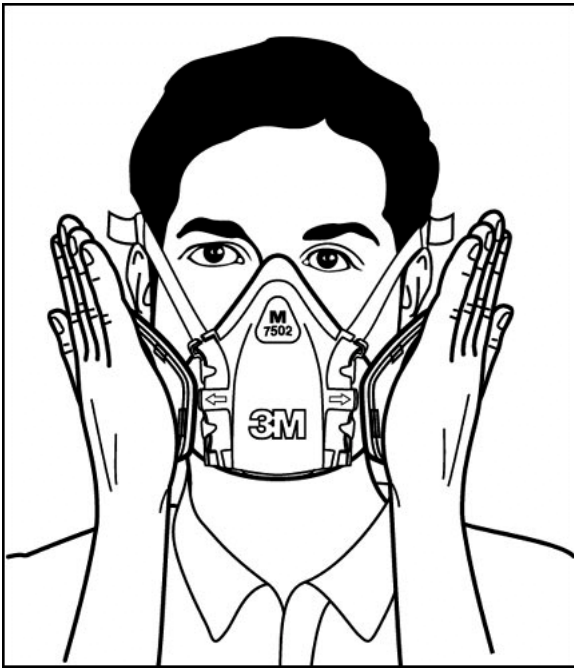

Fig. 15
1. Place palms of hands to cover face of cartridge or open area of 3M™ 501 *(07054) Filter Retainer, when retainer is attached to the cartridge, to restrict air flow. (Fig. 15)
1. Using hands press filter covers toward facepiece and inhale gently. If you feel facepiece collapse slightly and pull closer to your face with no leaks between the face and facepiece a proper seal has been obtained (Fig. 15)